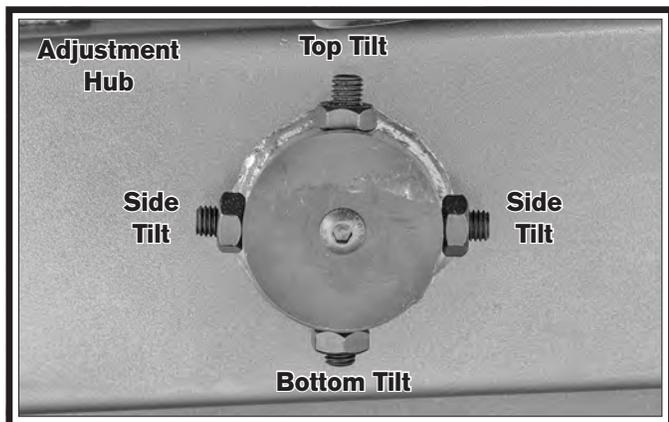

Figure 108. Lower wheel adjustment controls.
2. Loosen jam nuts on lower wheel adjustment hub (see **Figure 108**).